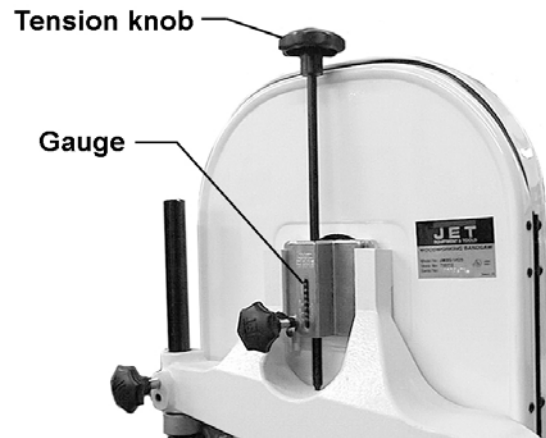

Figure 17
2. Turn blade tension knob (Figure 17) clockwise to tension blade.
6. A gauge (Figure 17) on the upper wheel slide bracket indicates the approximate tension according to the width of the blade. Initially, set the blade tension to correspond to the blade width as marked on the gauge.